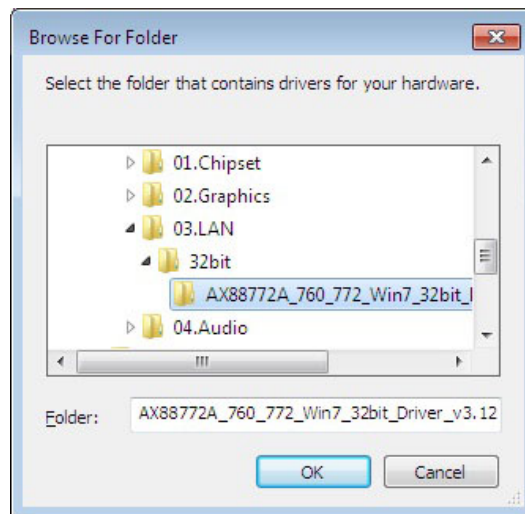

Figure 6-19: Folder Selection Window
Step 12: The following window (**Figure 6-19**) appears.